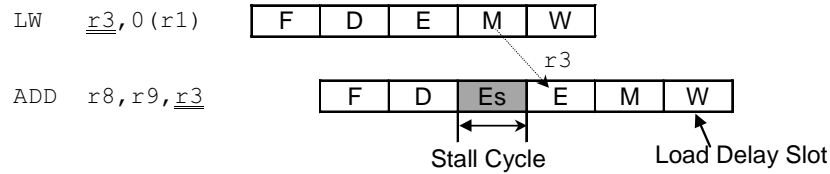

Figure 5-3 Data Dependency Resulting from a Load Instruction
Load instructions read an operand from memory into a CPU register for subsequent operation by other instructions. In the case of loads from the on-chip fast memory, operand becomes available after completion of the Memory Access (M) stage of the load instruction because it is internally forwarded at the M stage before the Register Write-back (W) stage. Still, the operand is not immediately usable for the Execute (E) cycle of the subsequent instruction, as shown in Figure 5-3.
This is called *data dependency*. In Figure 5-3, the TX19 handles data dependency by inserting a wait (or "stall") cycle into the E stage of the next instruction. Figure 5-3 depicts a delay (or latency) of one cycle. The instruction that immediately follows the load instruction is said to be in the *load delay slot*. Loads from external memory incur additional stall cycles.